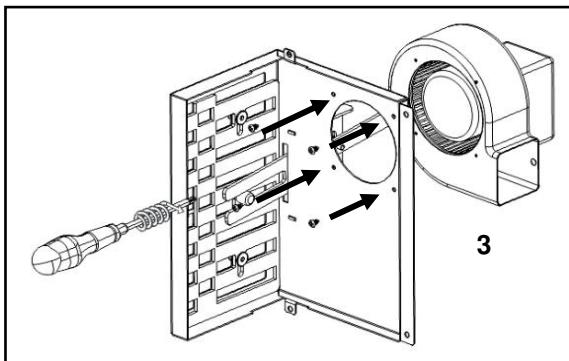

Figure 109 – Securing the support bracket to the ventilator
e) Tighten the Figure 109 assembly on the top face of the combustion chamber using 4 screws **A** (DIN 7981 5,5x13) in the holes prepared for this purpose (2).